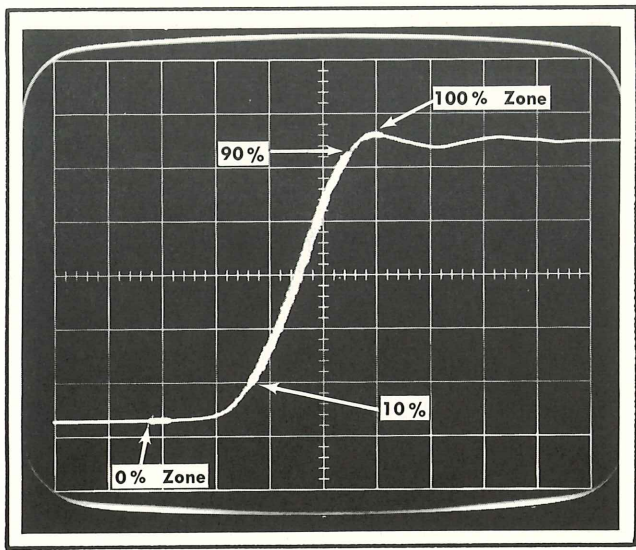

Fig. 5-6. Risetime measurement using a Type 230 Digital Unit.
- Set the Type 3T77A for a sweep rate of 0.2 ns/Div and adjust the Time Position and the Trigger Sensitivity controls to place the leading edge of the pulse as shown in Fig. 5-6.